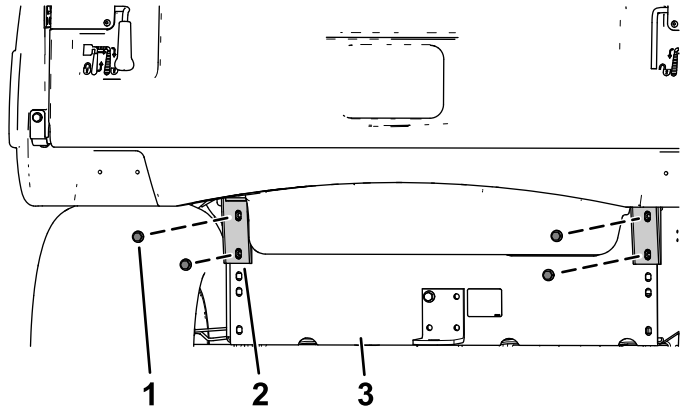

**Figure 4**
6. Remove the prop rod through the key hole at the forward end of the slot for the prop rod (Figure 4).